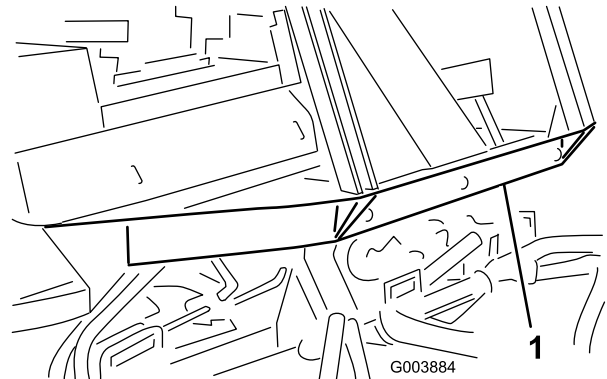

Figure 36
4. Attach a suitable chain, strap, or cable to the center of the front frame member (Figure 36).